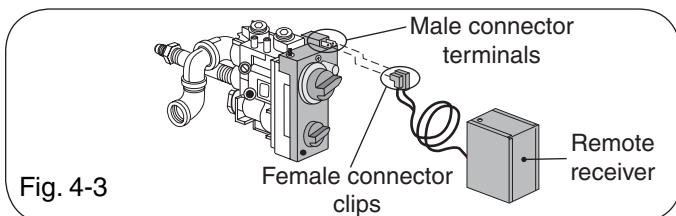

Fig. 4-3
A. The APK-15(P) receiver has two female connector clips attached to the leads; one large and one small. Connect the female connector clips to the corresponding male connector terminals (one large, one small) on the APK-15(P) valve. The male connector terminals are located on the front upper right hand corner of the valve (Fig. 4-3).